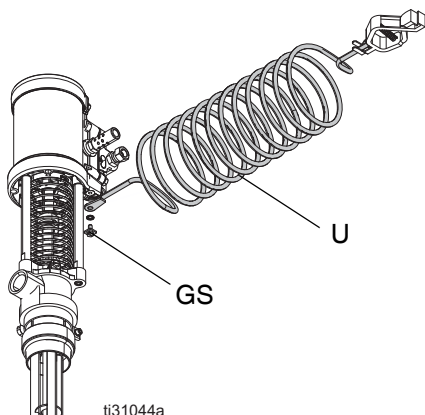

FIG. 4: Ground wire
See FIG. 4. Verify that the ground screw (GS) is attached and tightened securely to the air motor. Connect the other end of the ground wire (U) to a true earth ground.